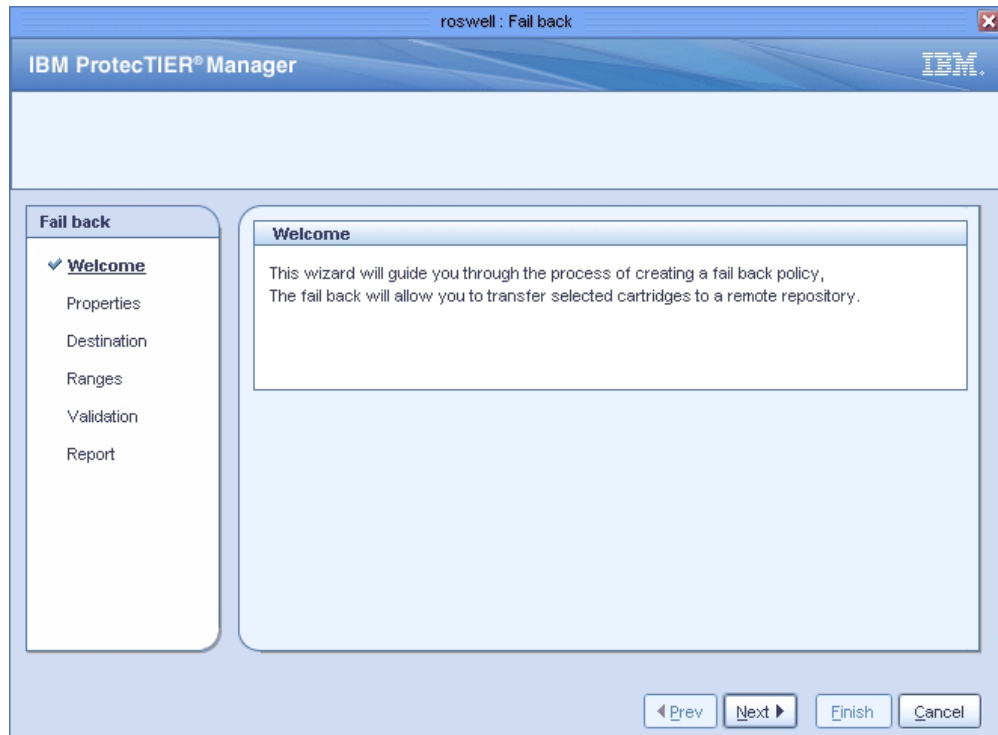

Figure 11-7 Create failback policy welcome window
1. Select **VT** → **Replication Disaster recovery** → **Fail back**. The Fail back wizard welcome window opens (Figure 11-7).